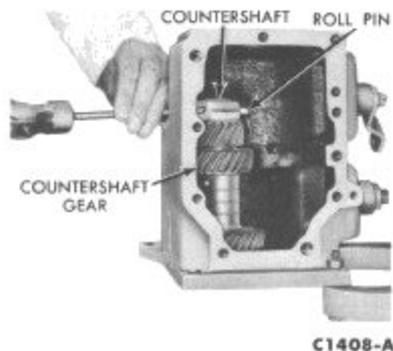

FIG. 43—Removing Countershaft Roll Pin
6. Remove the lubricant filler plug from the right side of the case. Working through the plug opening, drive the roll pin out of the case and countershaft with a small punch (Fig. 43).
23. Working through the lubricant filler hole, install a roll pin (Fig. 43) in the case and countershaft.